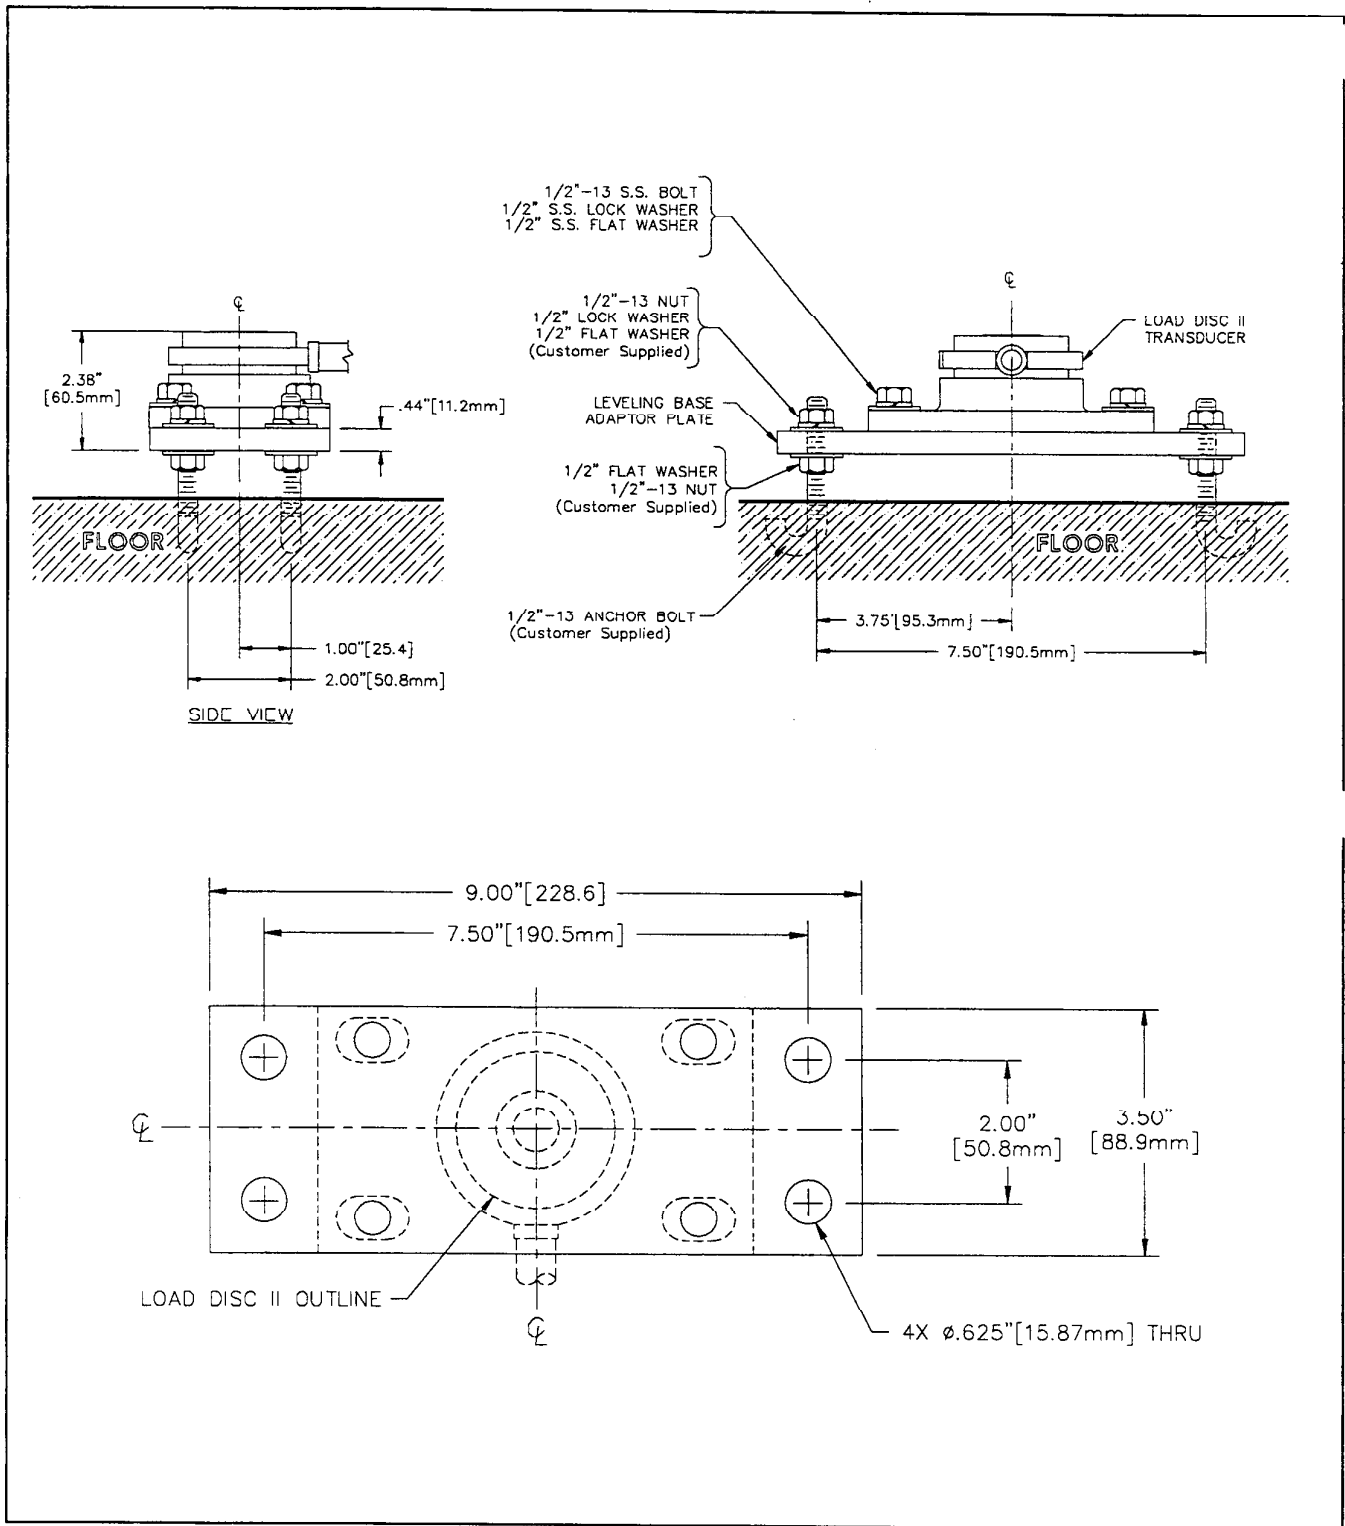

Figure 2-12. 150-25K lb Load Disc II Transducer with Leveling Base Adaptor Plate.
1. Install the Load Disc II on the leveling base adaptor plate using the four 1/2"-13 screws and washer sets (Figure 2-12).